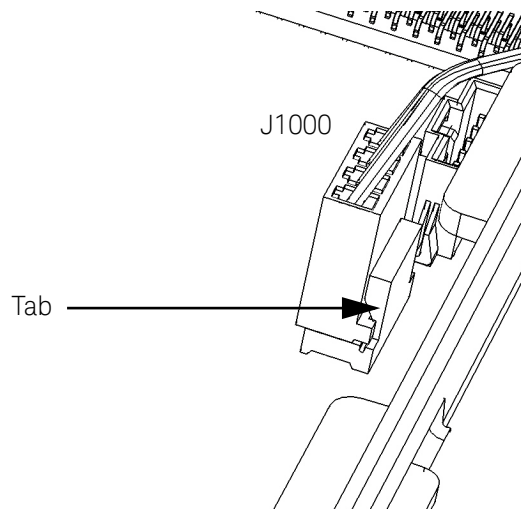
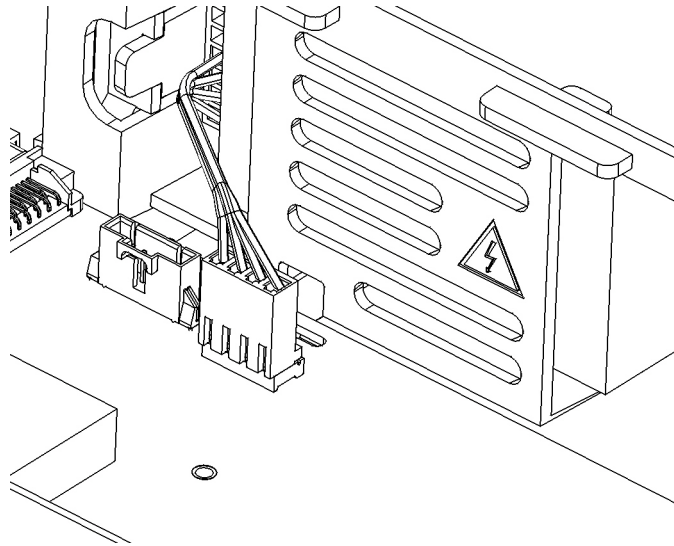

Figure 4-1 Connector Locking Tab
Figure 4-2 Jumper cable installed
- 1 Using a medium slot-head screwdriver, gently push back the 4-pin connector lock tab on the motherboard end of the jumper cable that connects between the Motherboard (J1000) and the PowerSupply board (J2). Refer to Figure 4-1 and Figure 4-2.
- 3 Repeat steps 1 and 2 for the other end of the jumper cable where it connects to the AC power supply assembly (6-pin connector) on the side wall of the instrument. See Figure 4-2. Set the jumper cable aside in a safe location in case it is needed in the future.